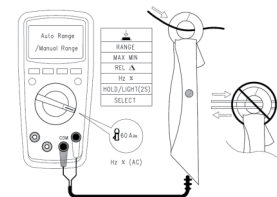

Figure 11
- *. 60A AC and DC current clamp measurement (See Figure 11).